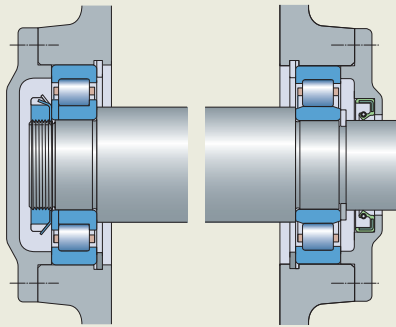

Fig. 8
- NU design cylindrical roller bearing and a four-point contact ball bearing / NU design cylindrical roller bearing (fig. 8)